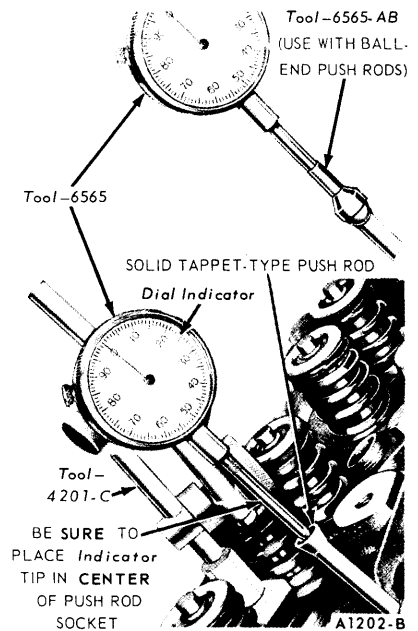

FIG. 2—Camshaft Lobe Lift
1. Remove the air cleaner and the valve rocker arm cover(s). Remove the valve rocker arm shaft assembly(ies). Install a solid tappet-type push rod in the push rod bore of the camshaft lobe to be checked, or use the adapter for ball-end push rods shown in Fig. 2.
2. Make sure the push rod is in the valve lifter socket. Install a dial indicator in such a manner as to have the actuating point of the indicator in the push rod socket and in the same plane as the push rod movement (Fig. 2).